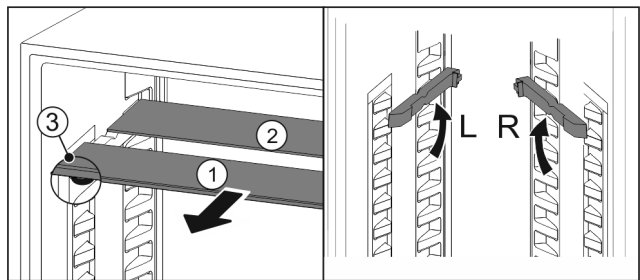

Fig. 62
- ▶ Pull the glass panels out Fig. 62 (1) from the front, one at a time.
- ▷ The glass panel Fig. 62 (1) and trim strip are at the front.
- ▷ The stops Fig. 62 (3) point down.